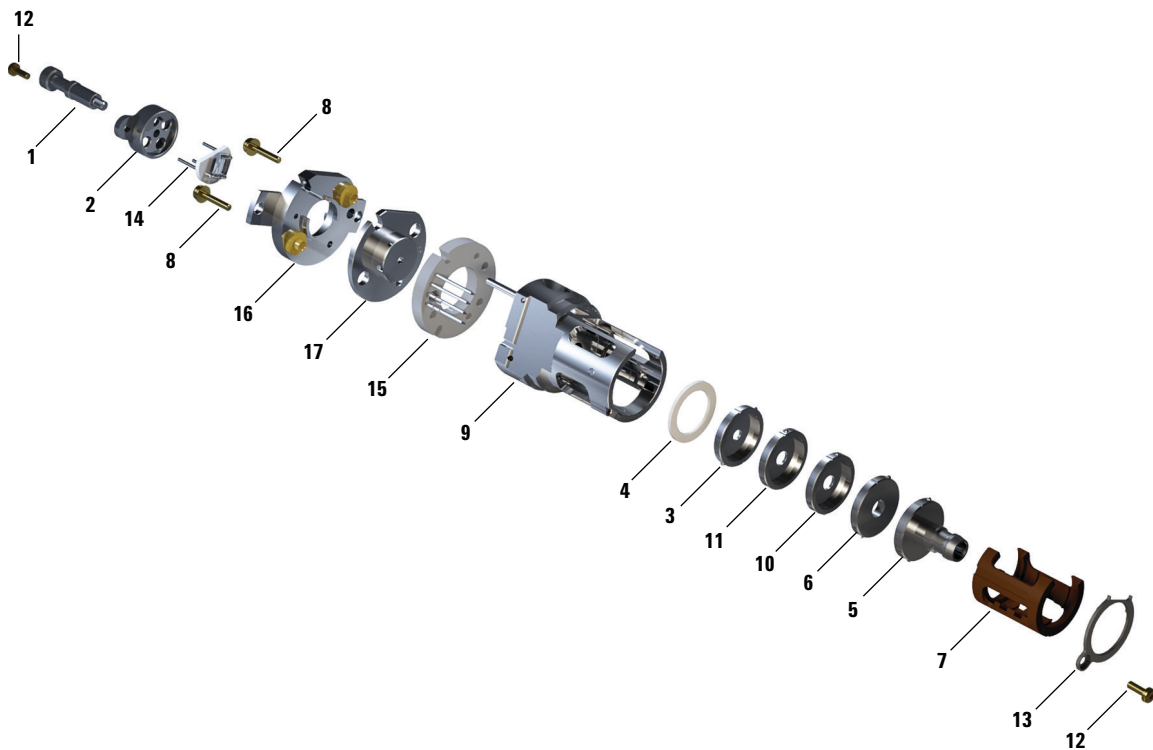

Figure 21. Exploded parts view of the LE-EI ion source
Refer to **Figure 21**, “Exploded parts view of the LE-EI ion source,” on page 89, and **Table 10**, “Parts list for LE-EI ion source (**Figure 21**),” on page 90 while using this procedure.
**Table 10** Parts list for LE-EI ion source (Figure 21)